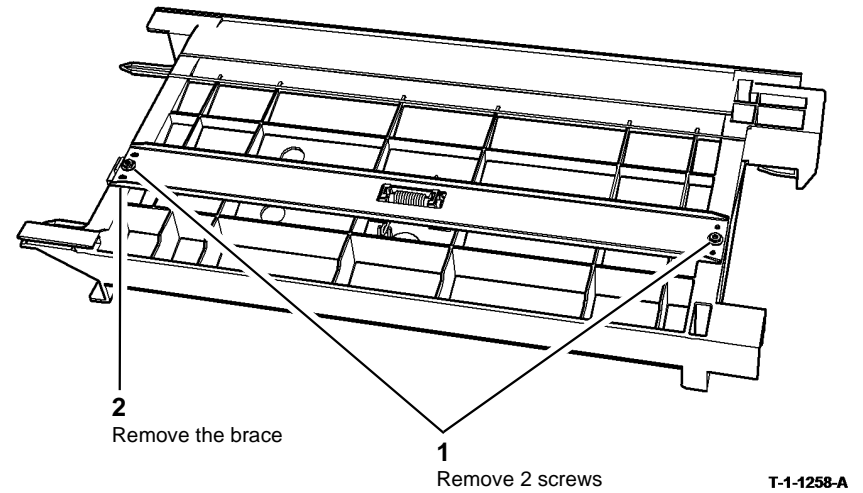
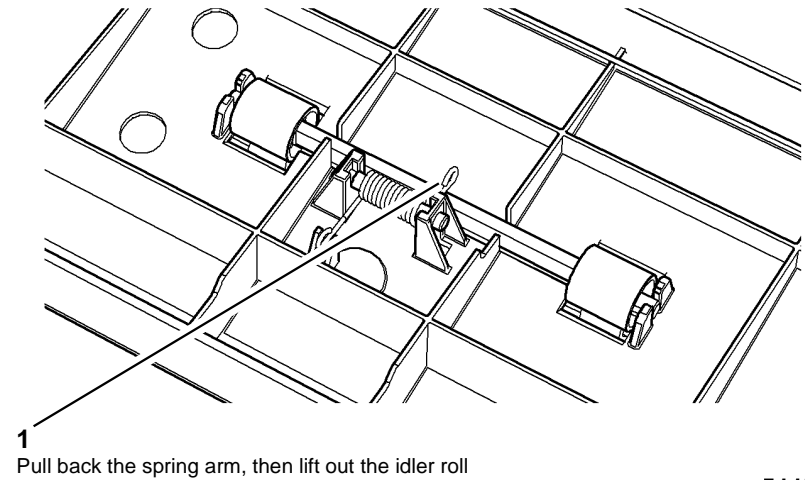

Figure 3 Brace removal
Figure 4 Idler rolls removal
4. If required remove the tray 3 transport brace, Figure 3, and the idler rolls, Figure 4.